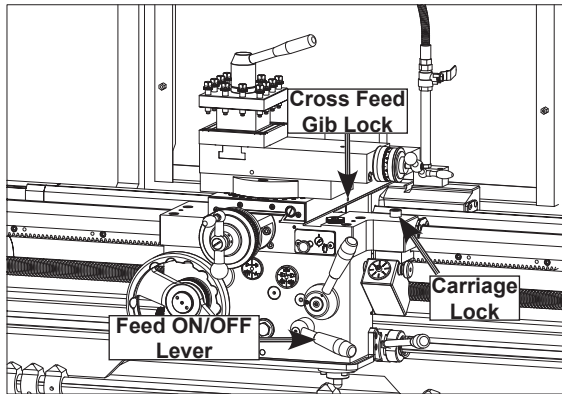

Figure 40. Carriage lock and gib lock.
If the threading or general carriage feed is required, the carriage lock (Figure 40) must be disengaged. If the cross feed will be used for facing, the carriage lock should be engaged and the cross feed gib lock screw should be loose. If it is tight, loosen the cross feed gib lock using a 3mm hex wrench.
3. Push down on the feed ON / OFF lever (Figure 40) on the front of the apron to engage power feed for either the carriage or the cross slide.